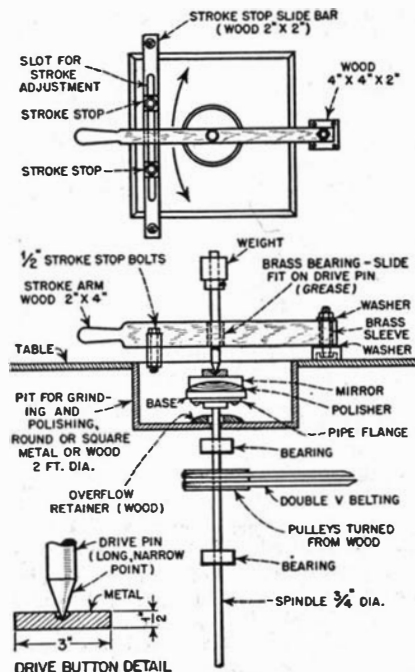

Figure 1: The machine
Building the grinding and polishing machine shown in Figure 1 will call for an assortment of angle iron and so on, and a raid on the local junk yard. We shall also need a 1/4-horsepower motor or, as a last desperate substitute resort, the family washing machine. The grinding machine will
it leaves something to be desired. The amateur's troubles with scratches is traceable more often to Carbo than to carelessness, since its granules are not so consistent in size as emeries.) Since it will be used in a pit (Figure 1) this permits recovery and re-use during the rough grinding stage (180) but the 500 and 1200 are too likely to become contaminated, and should not be re-covered.
The mirror blank requires a driving button (Figure 1) which will be attached to the glass with pitch and remain there throughout the grinding and polishing operations. To fasten it to the blank we melt the pitch slowly, heat the blank and button, dip the button into the pitch and quickly place it on the blank, centering it before it becomes cold. In the same manner we pitch the tool on the spindle pipe flange shown in Figure 1, centering it by rotating the spindle and shifting it until the tool runs concentric.